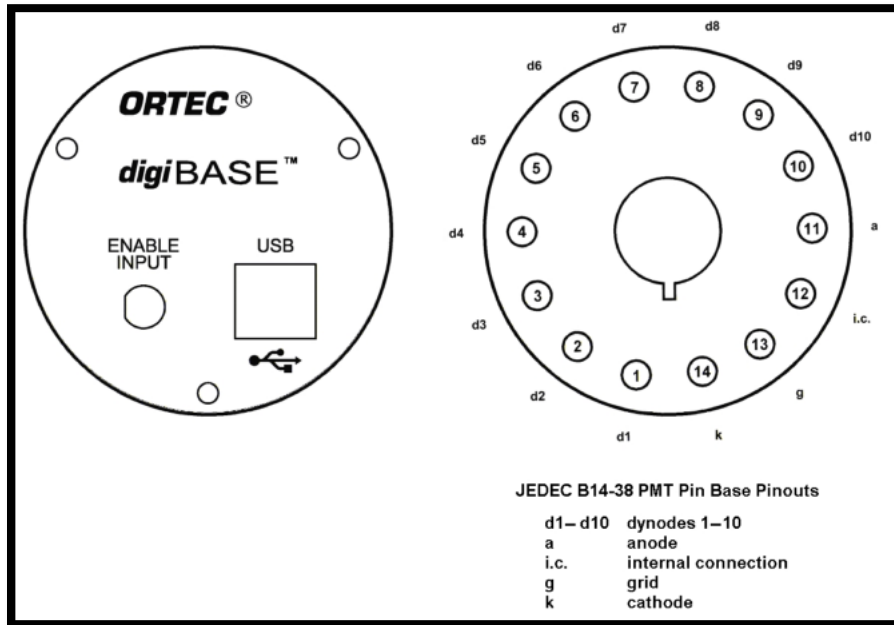

Figure 1. The digiBASE Connectors
Figure 1 shows the digiBASE connectors on both the top and bottom panels, including the pin assignments for the TRW 3B14 socket base, which accepts JEDEC B14-38 PMT pin bases. The digiBASE is powered by the USB bus so there is no separate power supply or cord. For more information on the ENABLE INPUT and USB connector, see Section 3.
- 1) Attach the PMT and detector to the digiBASE. Before doing so, make sure the PMT matches the pin assignments shown in Figure 1 above. Align the PMT pins so that they key correctly, and firmly seat the PMT in the digiBASE socket.